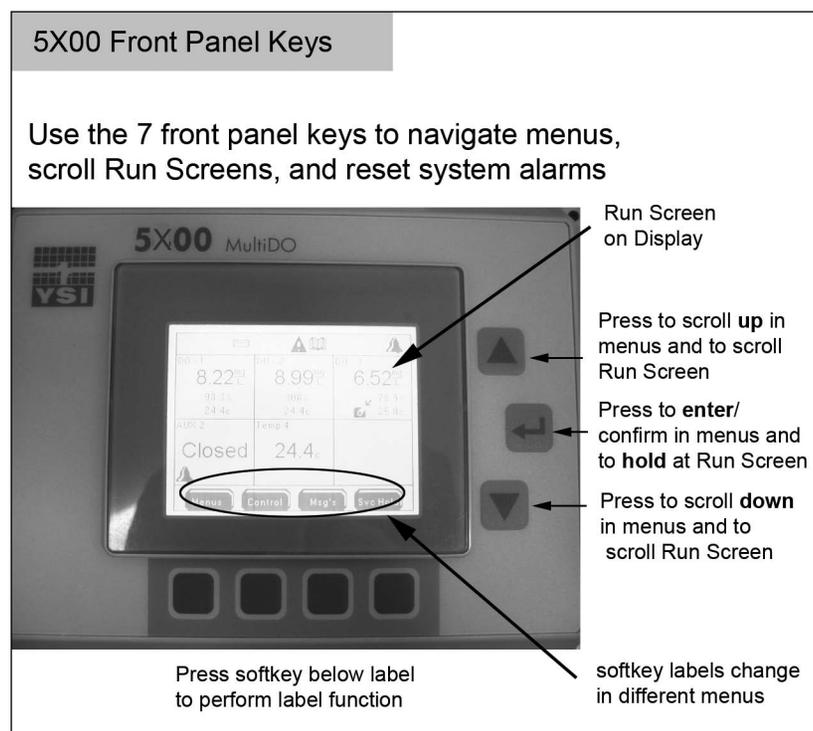

Figure 4.1
The front panel - figure 4.1, is the front component of the 5X00 enclosure. The front panel contains the 5X00 display and seven keys. Use the keys to navigate menus and instrument system information.
There are seven (7) 5X00 front panel keys - figure 4.1. Use  and  keys to scroll and highlight menu lists and to scroll through multiple Run Screens. Use  key to select and enter highlighted submenu item and to hold one of multiple run screens from scrolling. Hold is not an option when there is only one run screen. Run screens can be scrolled when held by pressing  and  keys.